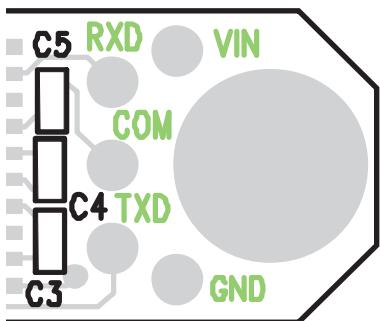
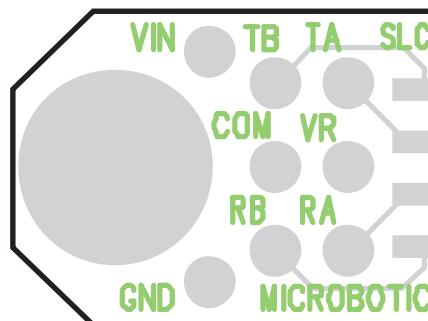
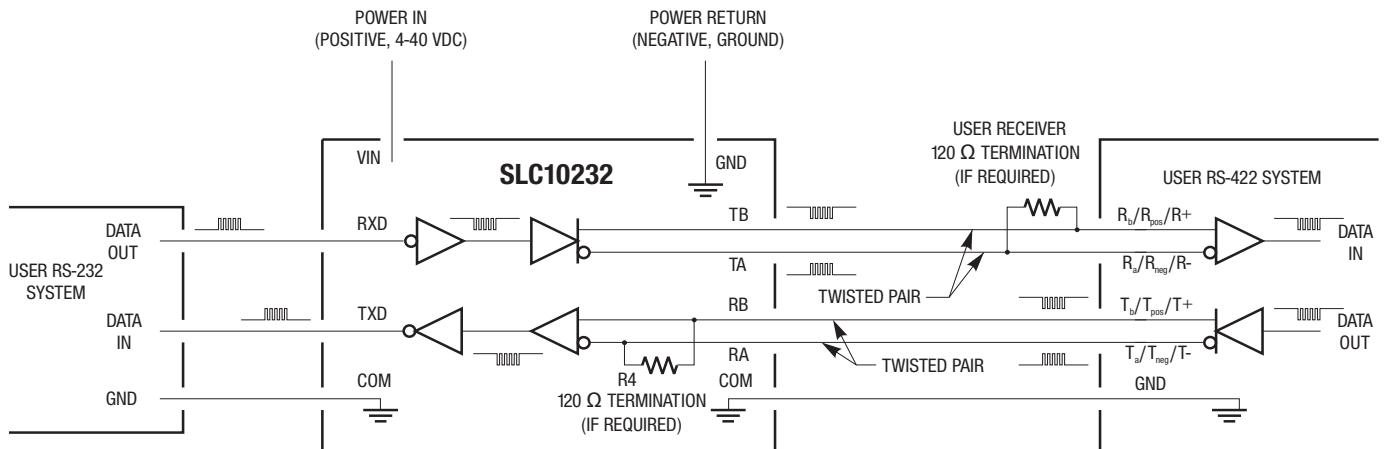
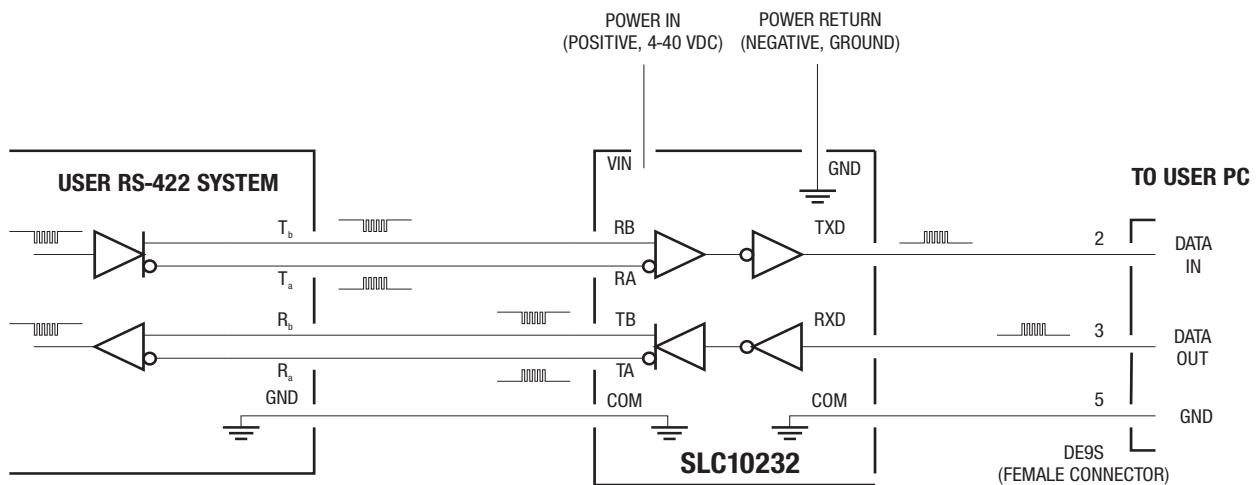

Figure 2. RS-232 Signals.
Figure 3. RS-422 Signals.
Figure 4. Typical User Connections to the SLC10232 Board.
Figure 5. Using the SLC10232 to Interface a PC to an RS-422 System.
2 Wiring the SLC10232 to the User System. Connections to the SLC10232 are normally made via direct wiring to the holes on the board. **Extreme care should be taken when soldering to the board to prevent damage to the pads or adjacent components.** The RS-422 signals are grouped at one end of the board (Figure 2), while the RS-232 signals are grouped at the other end (Figure 3). Power input and return lines are available at both groups of signals. The signal pads for the SLC10232 are:
2.2 RS-232 Connections. Three signal lines are used for RS-232 connections (Figure 2). The **RXD** line is the RS-232 signal received by the SLC10232 from the user system, which is then passed to the **TA** and **TB** outputs. The **TXD** line is the RS-232 signal transmitted by the SLC10232 to the user system, having been passed from the **RA** and **RB** inputs. The **COM** line is a signal Ground return for the RS-232 signals, and **must** be connected to the Ground of the user RS-232 Port. Figure 4 shows a typical connection for the RS-232 signals, while Figure 5 shows a typical connection to a user PC. **FAILURE TO CONNECT THE COM LINE TO THE USER PORT GROUND MAY CAUSE ELECTRICAL FAILURE OF THE SLC10232 AND VOIDS THE BOARD WARRANTY.**
2.3 RS-422 Connections. Five signal lines are used for RS-422 connections (Figure 3). The **TA** and **TB** pair is the differential signal *transmitted from the SLC10232* to the user system, having been passed from the **RXD** input. The **RA** and **RB** pair is the differential signal *received by the SLC10232* from the user system, which is then passed to the **TXD** output. Note that, in both transmitter and receiver signals, the ‘**A**’ references the *negative* signals, while the ‘**B**’ references the *positive* signal. The **COM** line is a signal Ground return for the RS-422 signals, and **must** be connected to the Ground of the user RS-422 port. Figure 4 shows a typical connection for the RS-422 signals. **FAILURE TO CONNECT THE COM LINE TO THE USER PORT GROUND MAY CAUSE ELECTRICAL FAILURE OF THE SLC10232 AND VOIDS THE BOARD WARRANTY.**